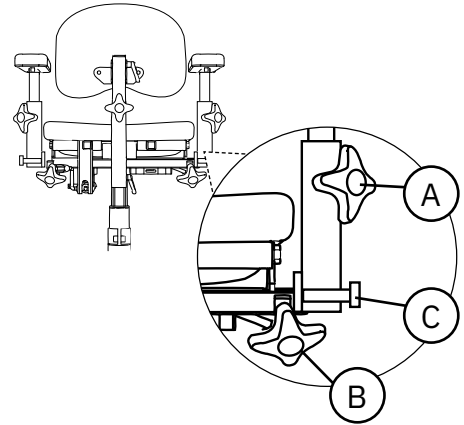

Figure 5.49. Foldable armrests.
Foldable armrests are adjustable in height (A), width (B) and can be folded backwards (C), see Figure 5.49.